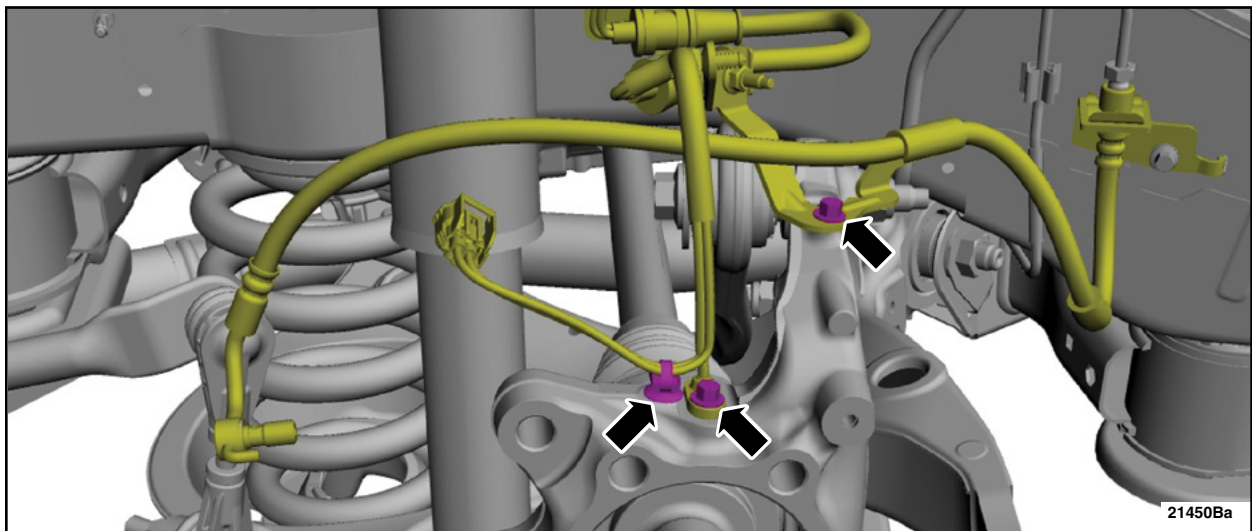

FIGURE 4
8. Remove the wheel speed sensor bolt and position the wheel speed sensor aside. Remove the brake hose bracket bolt and position the brake hose bracket aside. See Figure 4.